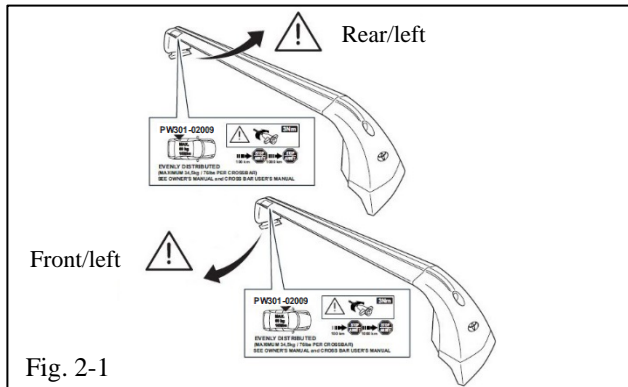

Fig. 2-1
- (a) Identify where on the vehicle each cross-bar foot will mount (Fig. 2-1).